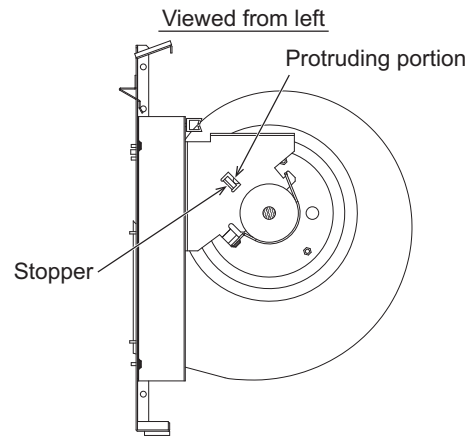

Fig.9
- (2) Fix the motor in place so that the heat radiating fins on the motor and the stopper of the motor leg are positioned as shown in Fig. 9.